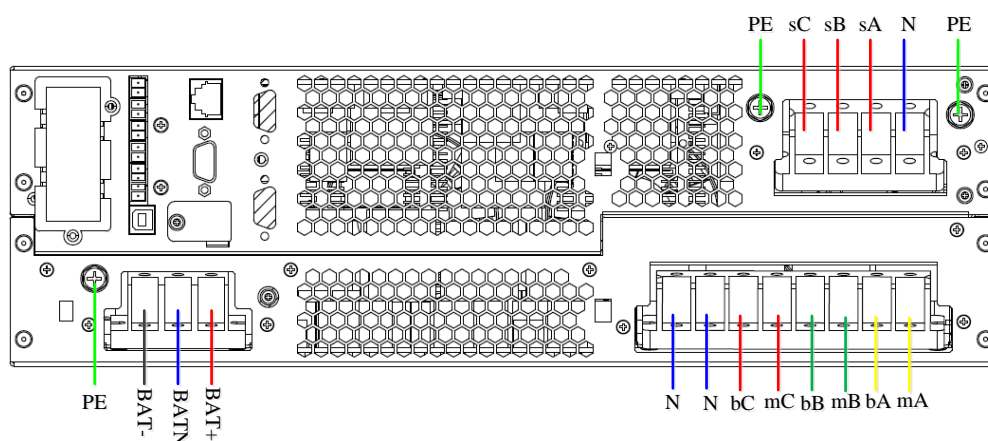

Figure 2-14 Wiring diagram (3-in 3-out, split-bypass configuration)
4. As shown in Figure 2-14, lead the battery positive cable, battery N cable and battery negative cable through the cable hole of the junction box, then respectively connect them to BAT+, BAT N, BAT- and PE, then fasten the fixing screws.
3. Connect the standard output live wires (phase-A, phase-B and phase-C) respectively to the output terminals sA, sB and sC. Connect the output N line and output PE line respectively to the output terminals N and PE. As shown in Figure 2-14.